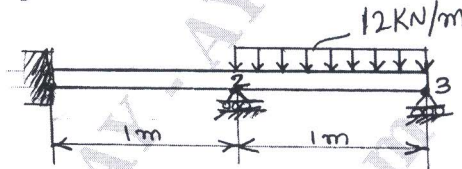

Fig.Q5(b)
- b. For the beam and loading shown in Fig.Q5(b), determine the slopes at 2 and 3 and the vertical deflection at the midpoint of the distributed load. Take $E = 200$ GPa, $I = 4 \times 10^6$ mm⁴.